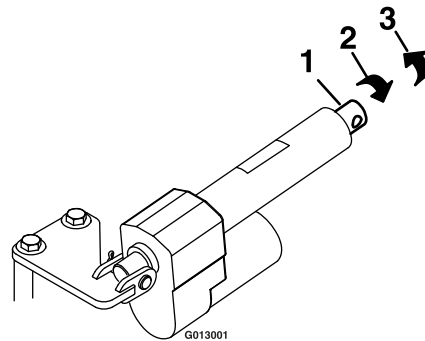

Figure 10
- If the actuator hole does not align with the actuator-side-plate hole, turn the end of the actuator clockwise or counterclockwise until it aligns as shown in Figure 10.